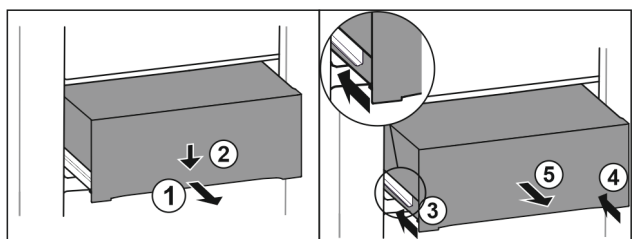

Fig. 169
- Pull out drawer half-way. Fig. 169 (1)
- Push the drawer down at the front. Fig. 169 (2)
- Push the left rail in by about 2 cm. Fig. 169 (3)
- Push the right rail in by about 2 cm. Fig. 169 (4)
- Remove drawer to the front. Fig. 169 (5)